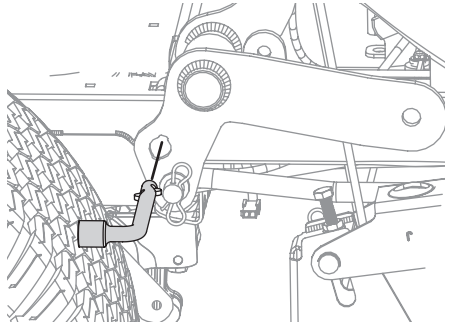

Figure 37
- a. Use the deck lift pedal and deck height index knob or 8 position magnetic pin to lower the deck into the lowest position and use the multi-tool (a) to lock the deck lift components in place (Figure 37).